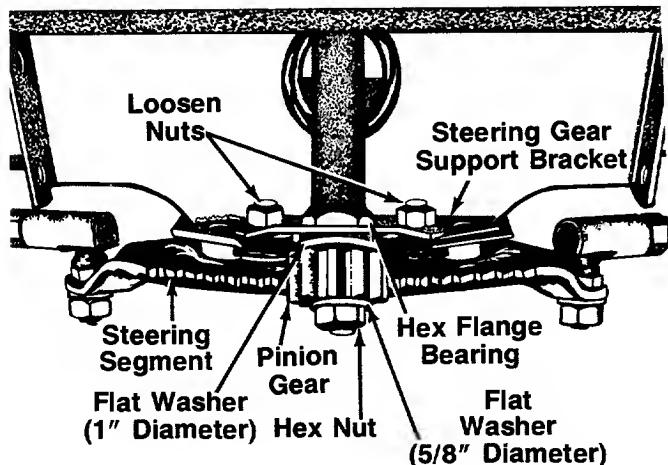

FIGURE 5.
6. **Models 510, 520, 530 and 550:** Insert the **steering shaft** with assembled parts through the **steering housing cover**. The lower end of the shaft should extend through the hole in the front end of the **steering gear adjuster** (Ref. No. 75 on page 28). See figure 5.
8. Place **hex flange bearing**, flat side down, over the end of the **steering shaft**, and seat it into the **steering gear adjuster**. See figure 5.